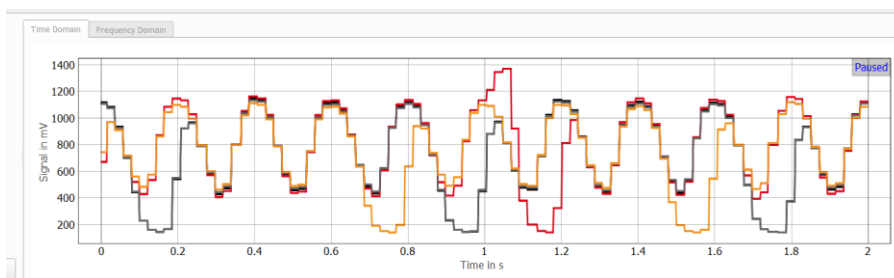

Fig. 24 Distorted signals due to additional connected detector after initialization
- If an additional detector is connected to the main shield, the signals of the already connected detectors will be distorted as show in Fig. 24⁴.